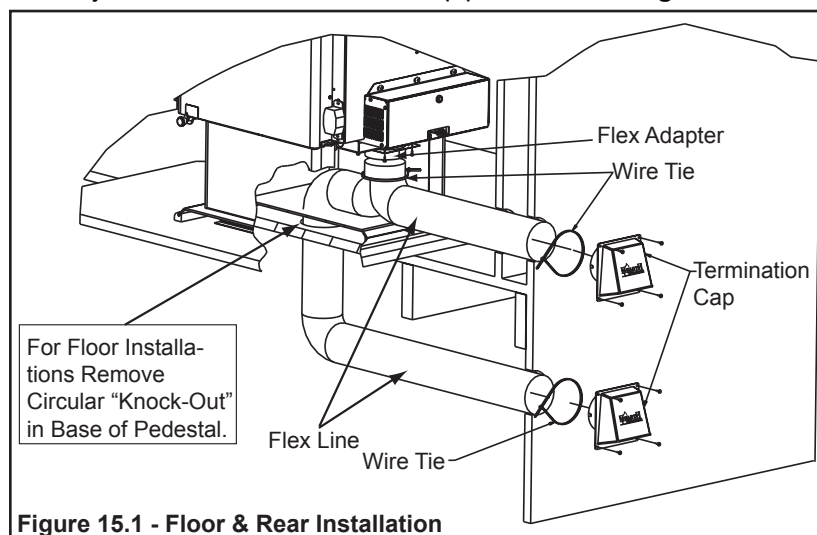

Figure 15.1 - Floor & Rear Installation
2. Using a #2 Phillips screw driver attach the flex adapter to the appliance using 4 screws. **Figure 15.1**